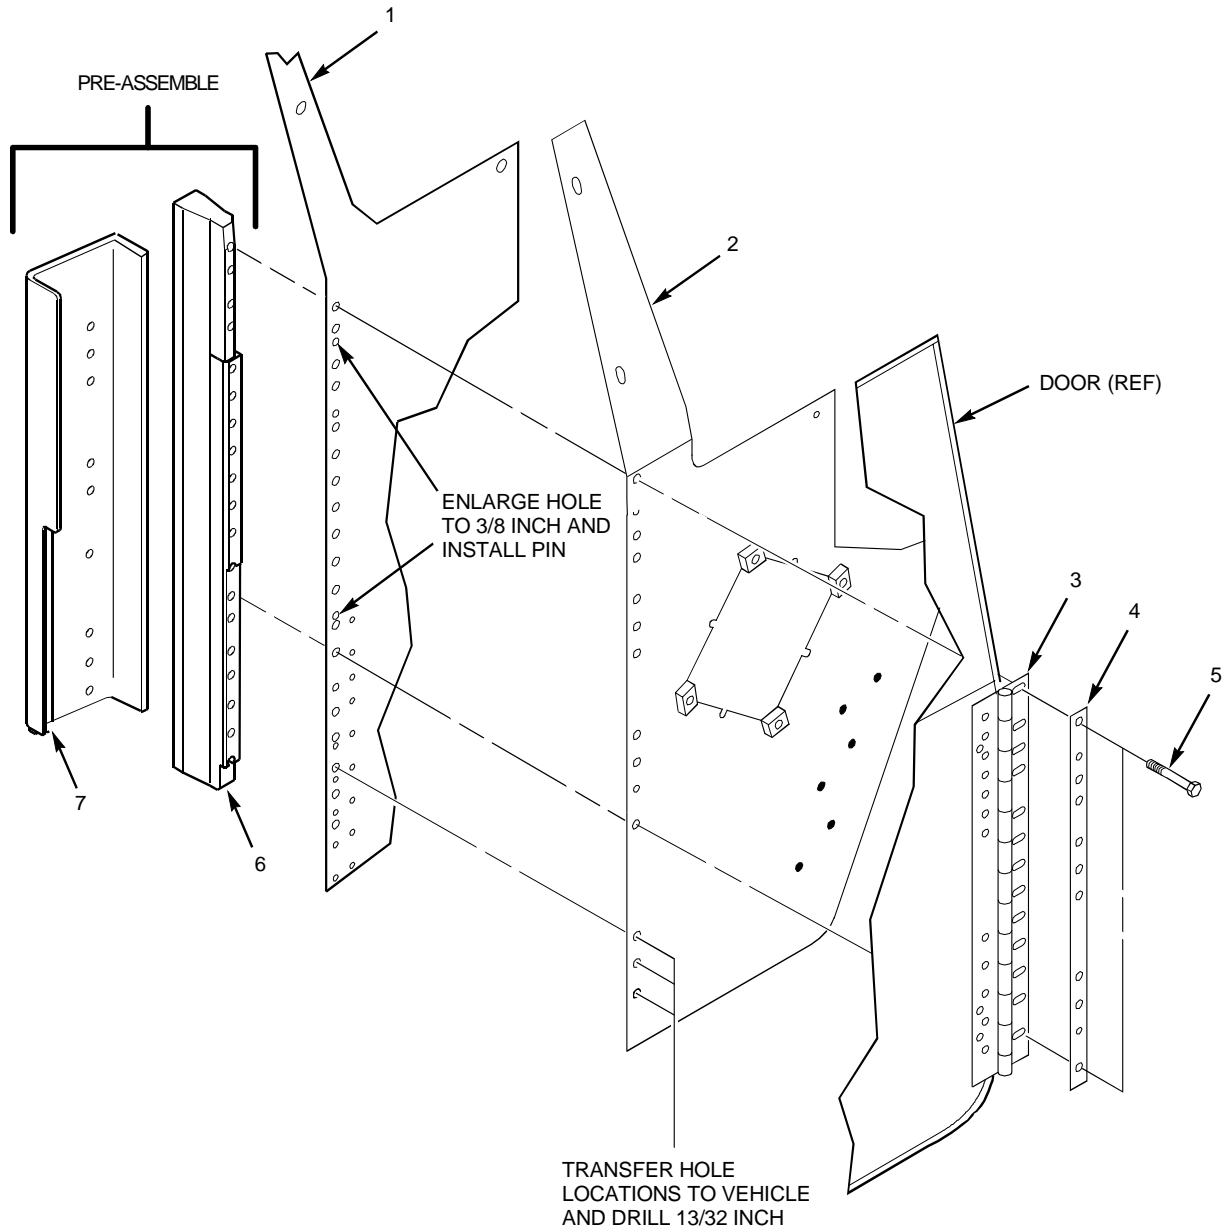

Figure 2-10. Right A-Pillar Reinforcement and A-Pillar Armor Removal (2 and 4 Door)
1. Remove right side A-pillar reinforcement and A-pillar armor (see figure 2-10).
- a. While supporting door assembly, remove nine capscrews (5) securing door to A-pillar armor (2) and hinge cover strip (4).
- b. Remove door assembly with attaching door hinge (3).
- c. Remove A-pillar armor (2).
- d. Remove pre-assembled right A-pillar reinforcement bar (6) and right A-pillar reinforcement channel (7).